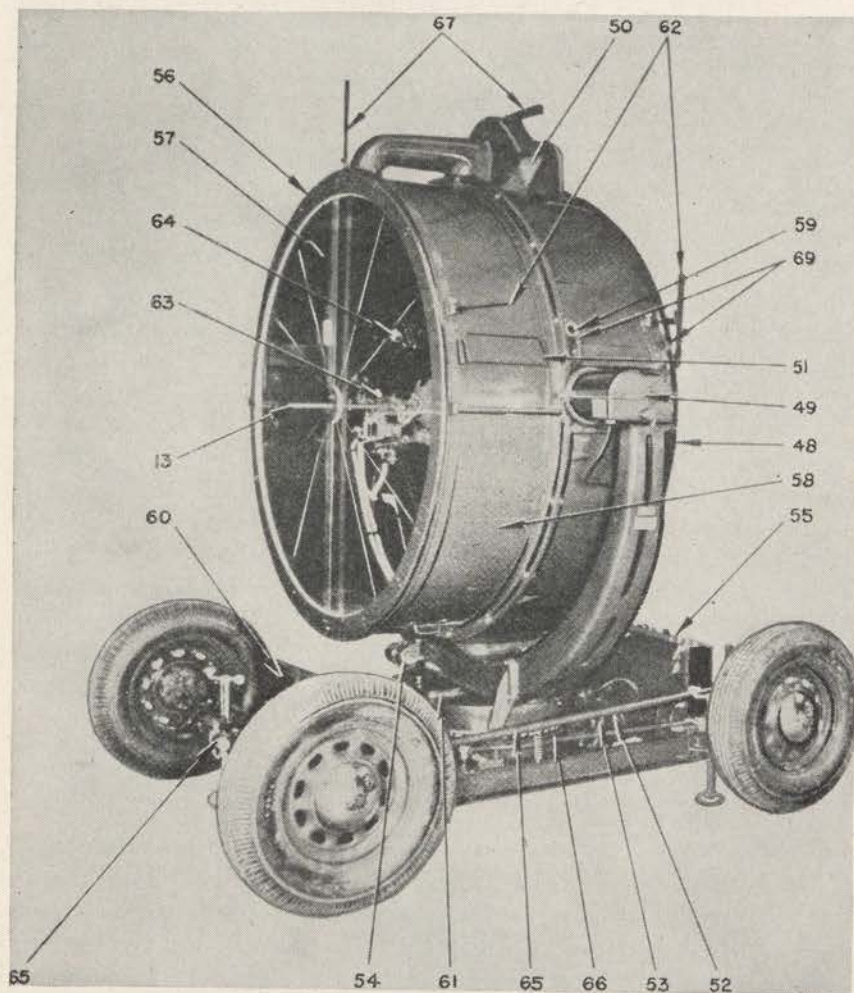

FIGURE 2.—Sperry M1941 anti-aircraft searchlight (front quarter view).
Q. Point out the various parts of the searchlight with which your unit is equipped. While pointing out each part, describe its use. A. See figures 2, 3, 4, and 5.